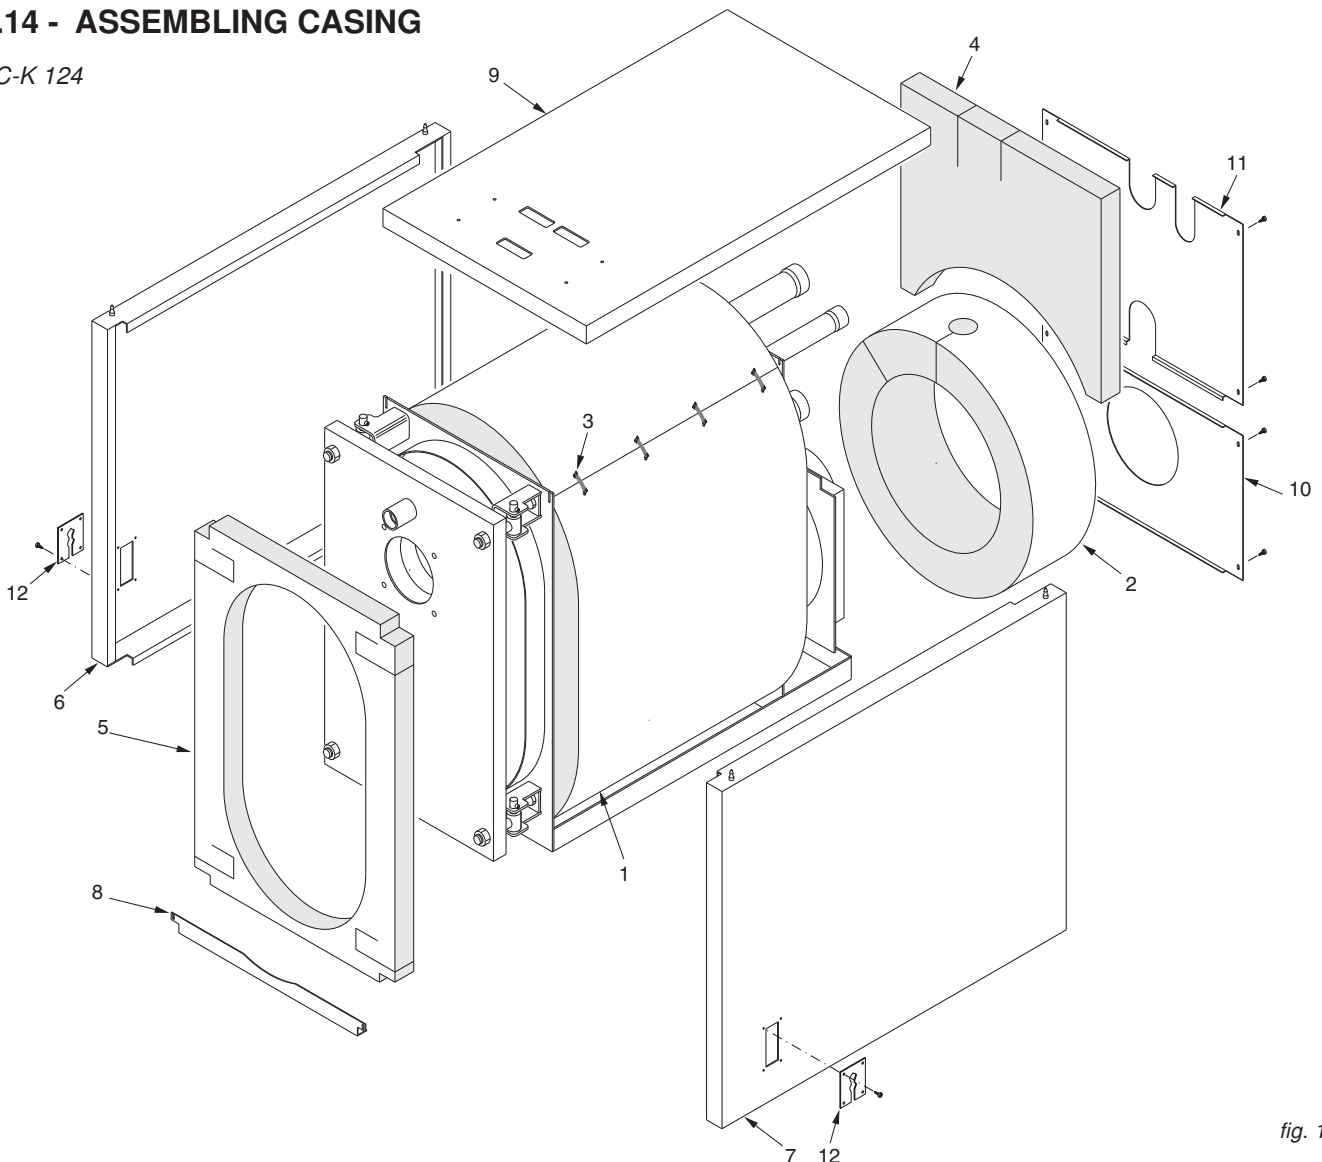

fig. 18
N.B. For models from **XC-K 124 to XC-K 400** (ref. fig. 18 and 19), the casing and insulation are contained in 1 box marked:
Assembly sequence (Ref. fig. 18, 21)